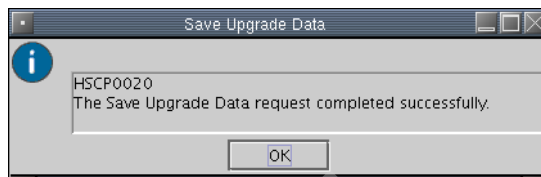

Figure 14-14 Save of Upgrade Data completed
- f. When the save is complete, an information window opens - see Figure 14-14.